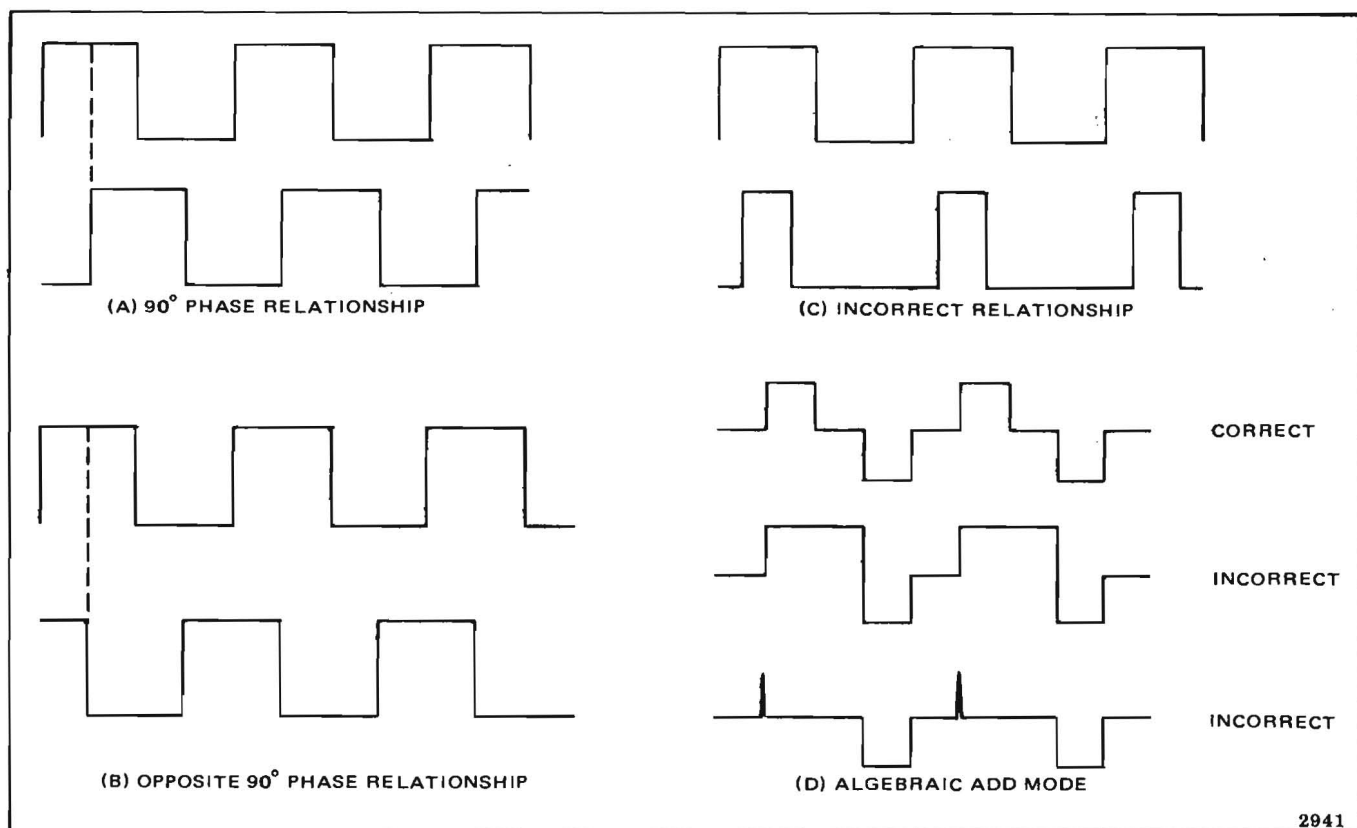

Figure 5-21. TP3 and TP4 Waveforms, PWA 8
12. If the preceding measurements of amplitude and phase were correct, but the capstan ran faster when the stop pushbutton was pressed, the Capstan Servo PWA No. 8 may have a malfunction or the Capstan Tach Sensor PWA position may need to be adjusted to obtain the opposite 90° phase relationship of the signals at TP3 and TP4 (see Figure 5-21) and steps 13 through 29). If any of the previous